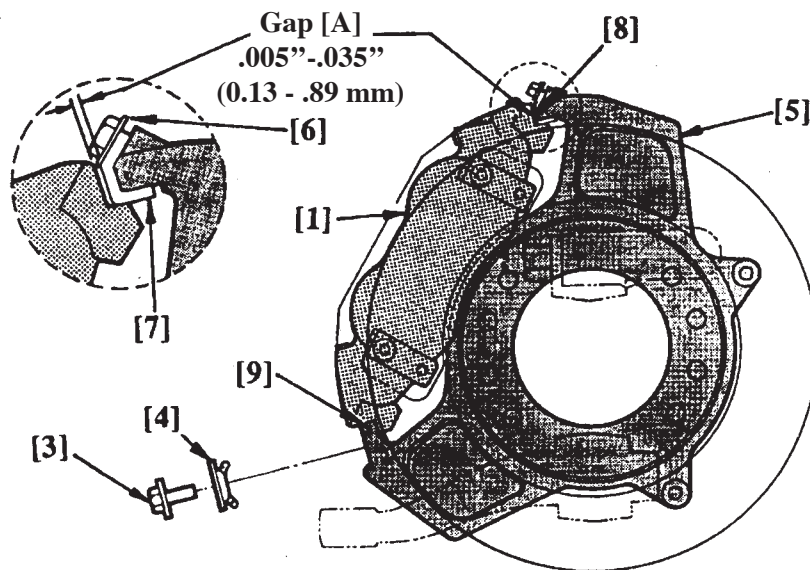

FIGURE 1
- H. With the caliper [1] in place on the support [5], pull out on the top end of the caliper as if to remove it from the support. This will open up a gap (A) between the caliper rail and the retainer [7]. See Figure 1.
- I. Place a screwdriver or other suitable wedge shaped device in the gap between the rail surfaces at (A) to maintain the gap while measuring.